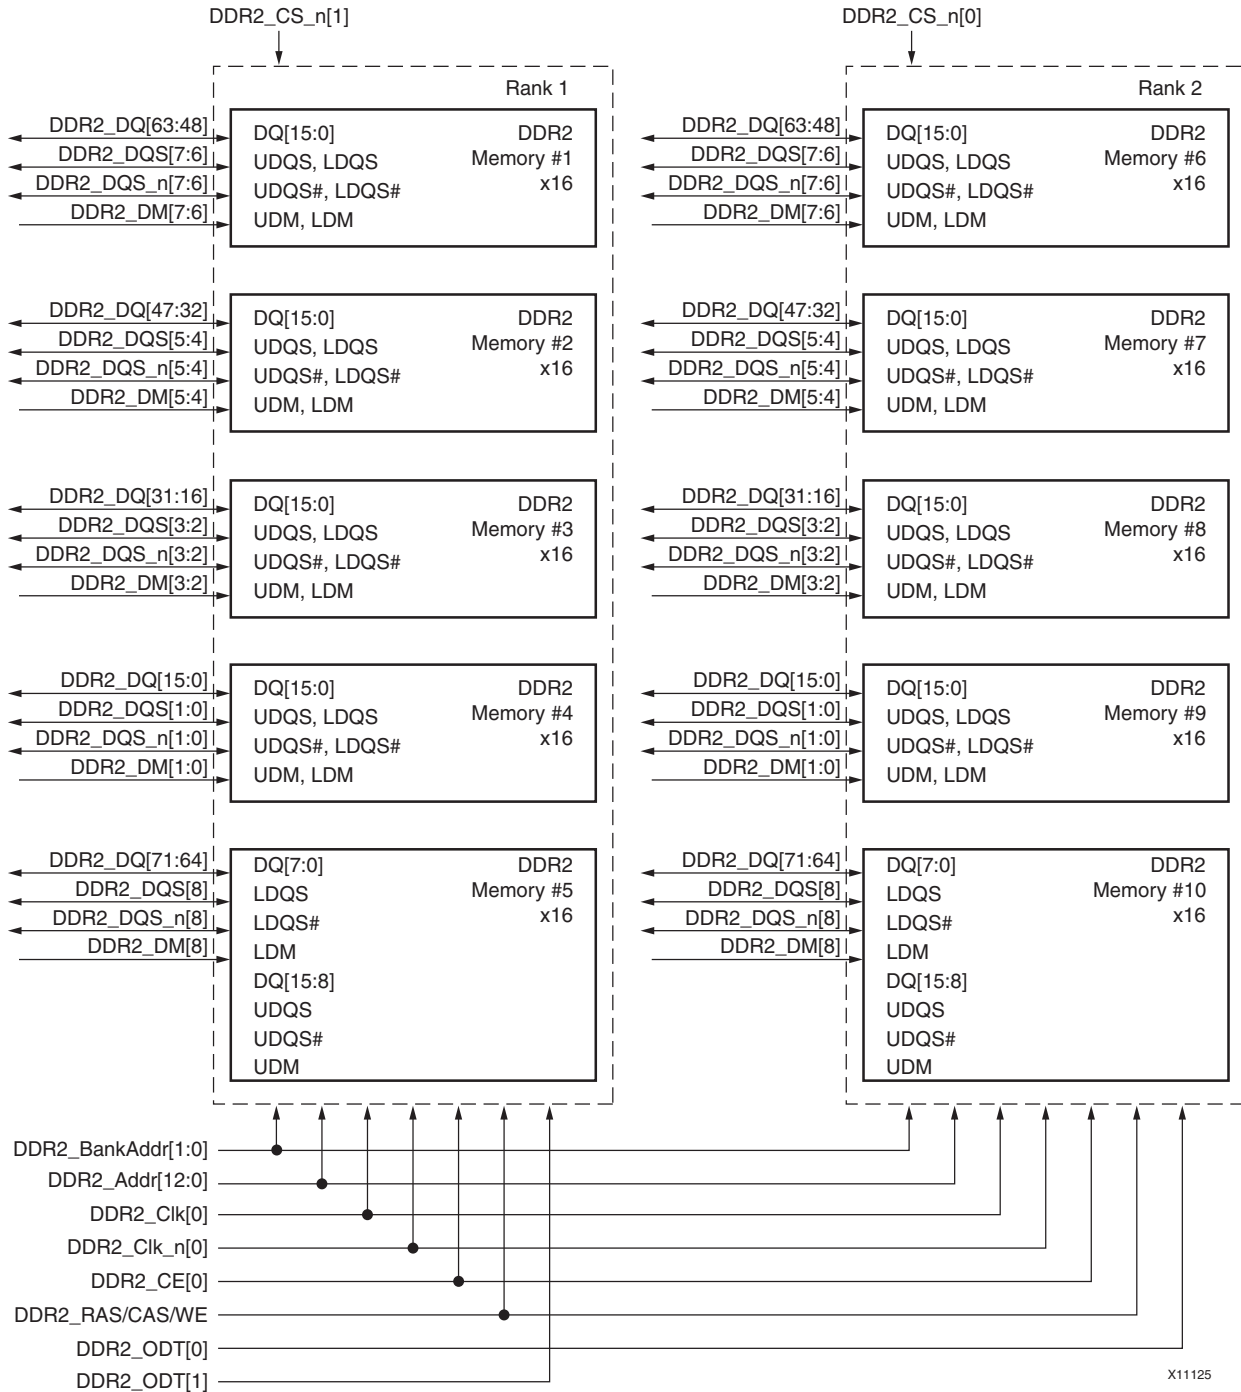

Figure 9: Example DDR2 Memory Connections
The example in Figure 9, page 95 has the following specified parameters:
- Within a particular rank, the signals DDR2\_CS\_n and DDR2\_ODT are connected to each memory in the rank. Some memory manufactures have specific recommendations for how these signals should be connected. For example, when using a dual rank DIMM, the recommendation might be to assert DDR2\_ODT on the same rank that DDR2\_CS\_n is asserted (as shown in Figure 9, page 95). Other recommendations might be to assert DDR2\_ODT on to opposite rank that the DDR2\_CS\_n is asserted, which can be achieved by swapping DDR2\_ODT[0] and DDR2\_ODT[1].